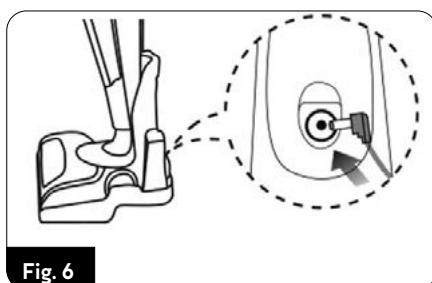

Fig. 6
1. Connect the charger cable (17) to the charger socket (20) on the docking station (fig.6).